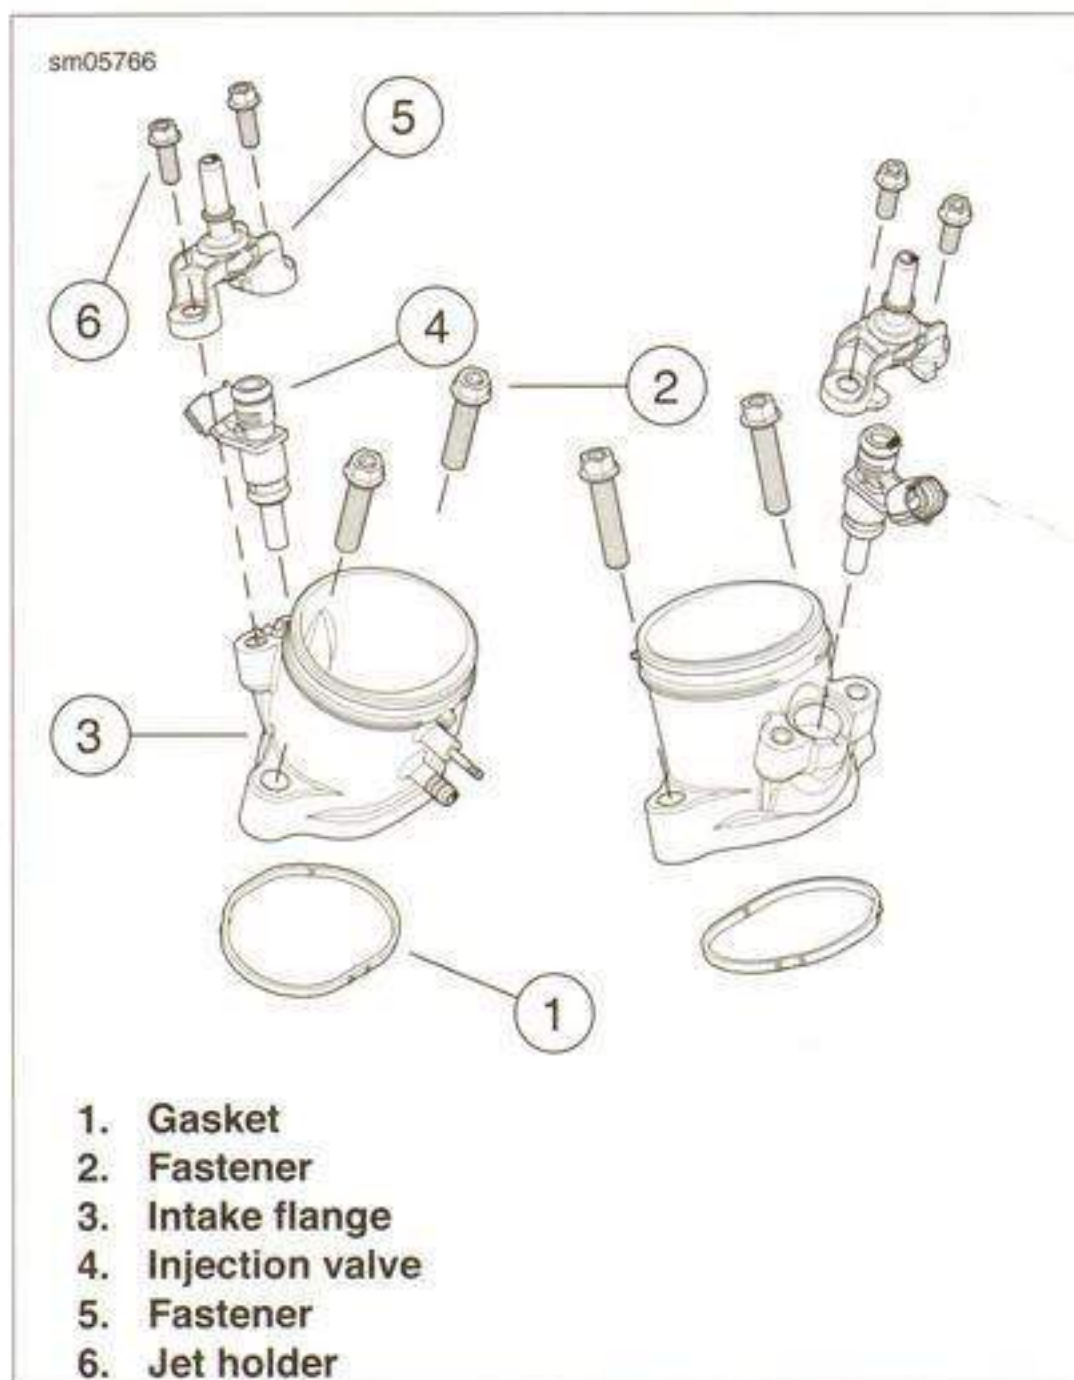

Figure 4-38. Intake Flange, Injection Valve and Jet Holder
2. See Figure 4-38. Align the holes in the intake flanges with those in cylinder heads and start the screws.